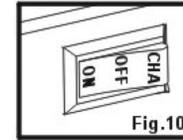

Fig.10
- Switch "ON" the PowerTank before turning ON your device. (FIG.10)
- Switch "ON" the PowerTank. (FIG.10)
- Switch ON the PowerTank. (FIG.10)
- Switch "ON" the PowerTank. (FIG. 10)